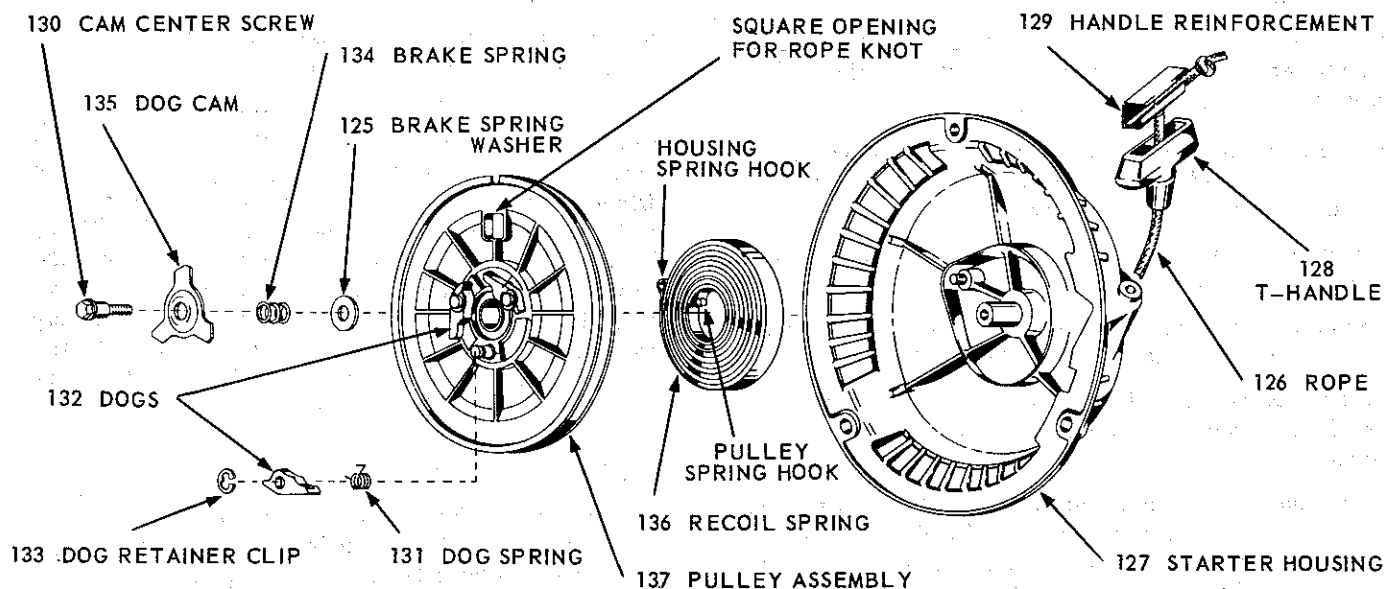

FIG. 3
A. REMOVE HANDLE and ROPE, Fig. 3
B. REMOVE PULLEY and SPRING, Fig. 3
C. REMOVAL of DOGS, Fig. 3
D. ROPE REPLACEMENT, Fig. 3, 4, 5
G. ASSEMBLY of DOG GROUP, Fig. 3